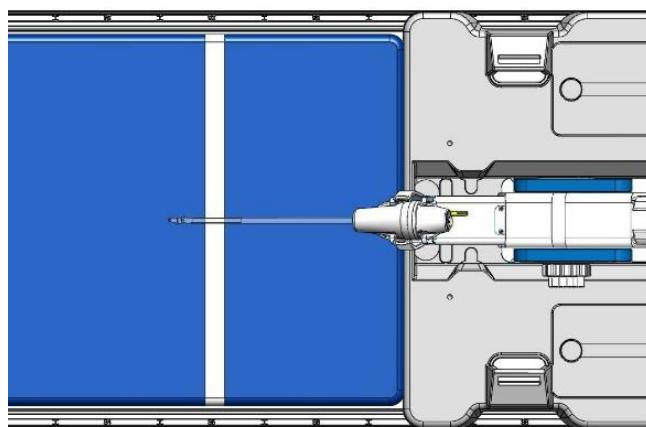

Figure 19: Centering and aligning the coils with the prostate
2. Position the patient on the MRI bed in a head-first supine position so that their sagittal midline is centered from left to right on the MRI table, and their prostate is at the white line of the patient pad (*Figure 19 [Your configuration might not match exactly as shown]*).